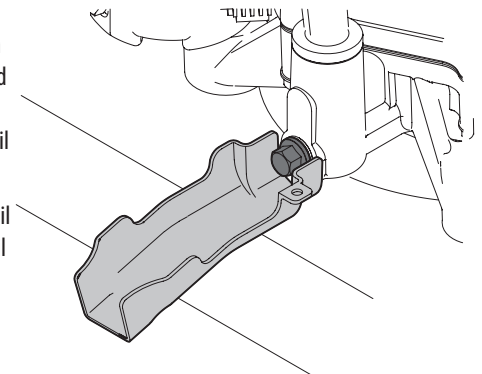

Figure 26
4. Snap the small end of oil drain sleeve onto the oil sump. See Figure 26.